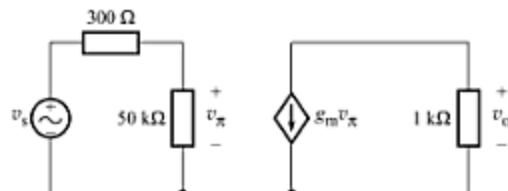

Fig. A-116
- A-83. In the circuit of Fig. A-116, if $g_m = 25 \times 10^{-3} \text{ S}$ and $v_s = 10 \cos 5t \text{ mV}$, find $v_o(t)$.